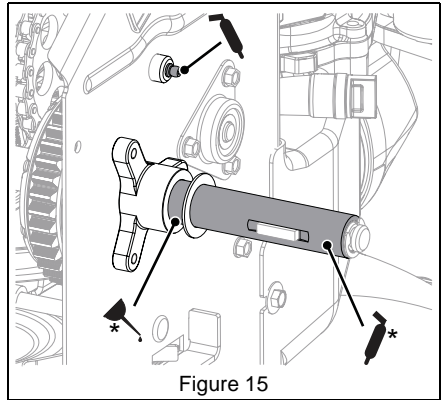

Figure 15
2. Lubricate as shown in Figures 15 and 16.